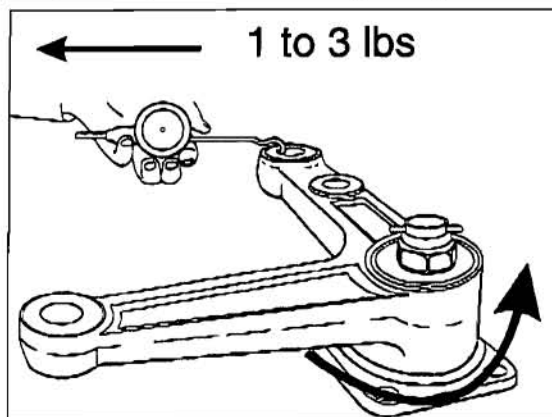

FIGURE 5: APPLICATION OF 1 TO 3 POUNDS LOAD 18045
9. Unscrew nut until bell crank or idler arm starts to turn by the application of 1 to 3 pounds load (Fig. 5).